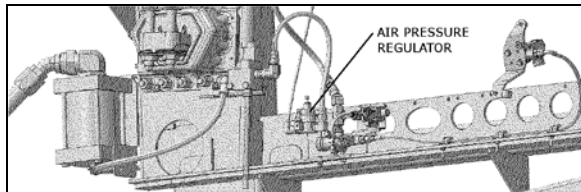

FIGURE 14: AIR PRESSURE REGULATOR (TYPICAL) 07130
18. Adjust the retarder pressure to 85 ± 3 psi with the air pressure regulator. For more information refer to Section 12, "BRAKE AND AIR SYSTEM", under heading "AIR PRESSURE REGULATOR". The air pressure regulator is located in the engine compartment, on engine cradle R.H. side (Fig. 14).